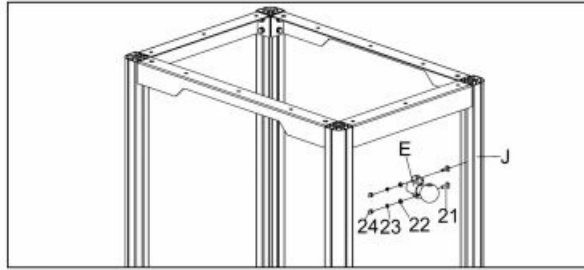

Fig.9
- **f.** Install the handle bracket (E) at the appropriate position and height as to your preference. Use the provided fasteners (#21, #22, #23, and #24) to secure the bracket onto the support leg (J) as shown in Fig.9.